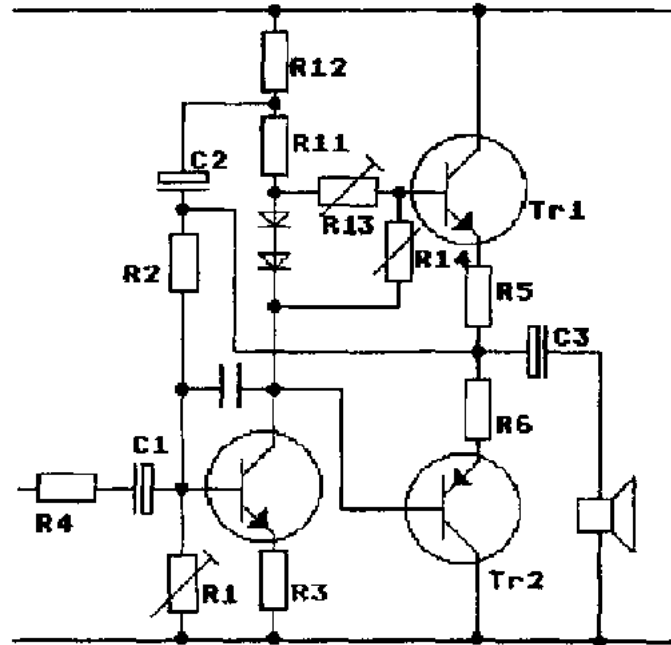

fig. 176
A rather advanced power amplifier of the COMPLIMENTARY PUSH PULL TYPE is shown in fig. 176.
3. Explain what each component in fig. 176 is useful for.